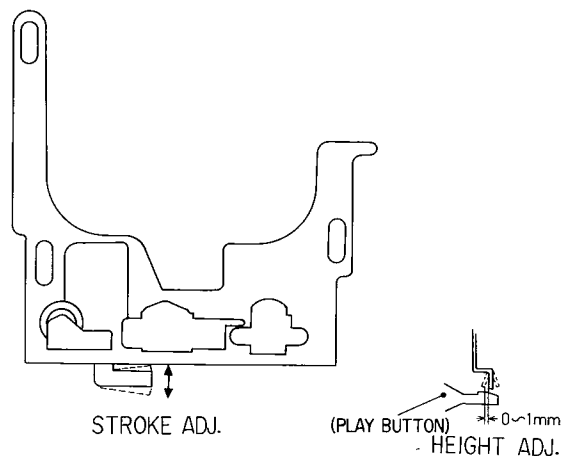

Fig. 5.4
- (1) Remove the mechanism ass'y referring to the item 3.3, mechanism ass'y removal procedure.
- (2) Adjust the height of head base stroke adjustment plate as illustrated in Fig. 5.4 (Height Adj.).
- (3) Load the "INFORMATION TERMINALS M-300" jig for positioning the record/playback head, pushing backward to eliminate the clearance between reference pin and jig.
- (4) Depress the play button and check to insure whether the positioning of the head is within the specified tolerance. If not, adjust the head base stroke adjustment plate from the bottom side at stop mode. See Fig. 5.4 (Stroke Adj.).